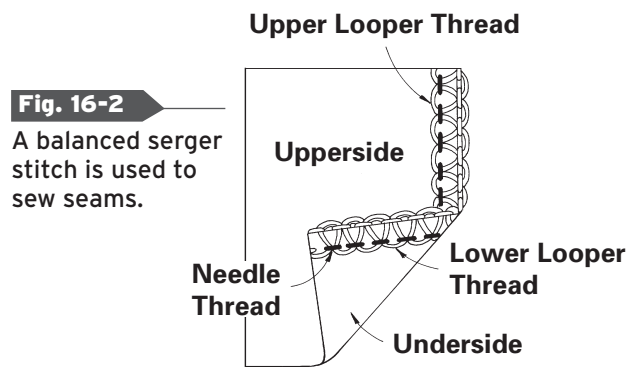

Fig. 16-2
- Balanced stitch.** A stitch used to sew seams; the looper threads interlock at the fabric edge. (Fig. 16-2)